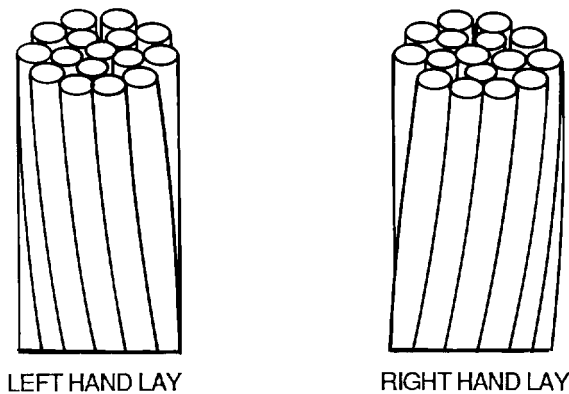

Figure 2. Lay
(1) Lay is the axial length of one complete turn of one strand in the conductor, either right hand or left hand twist (Figure 2).